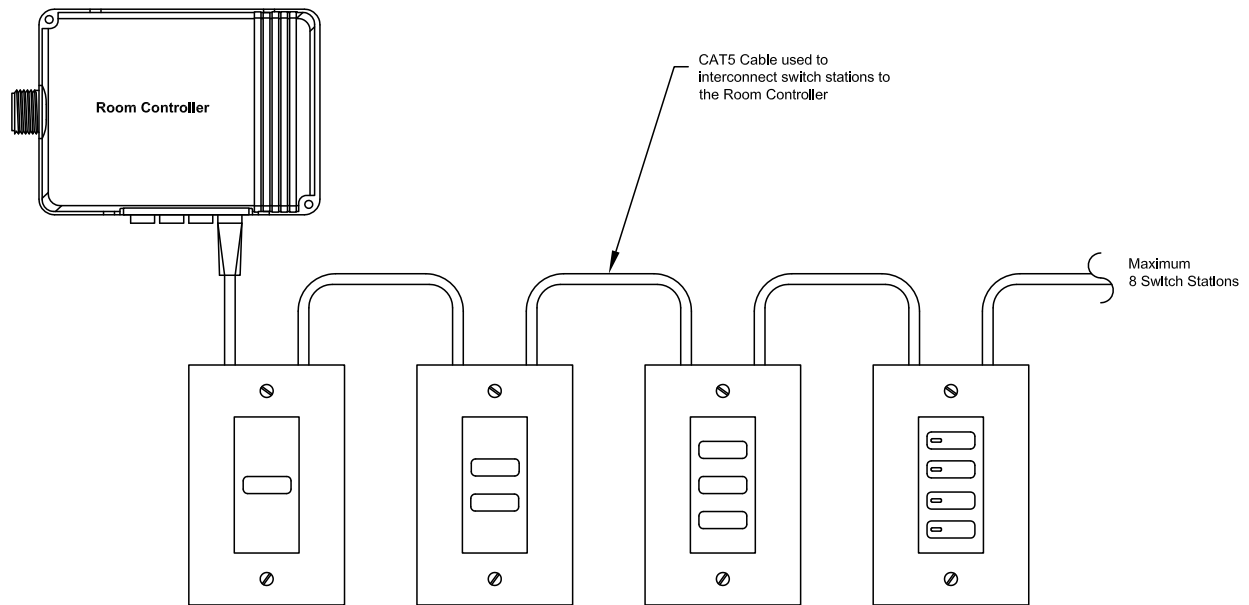

Figure 3: NX Switches connected to Room Controller SmartPORT
2. Plug the CAT5 cable into any available SmartPORT™ on the NX Room Controller (See Figure 3). Verify solid snap-in connection.